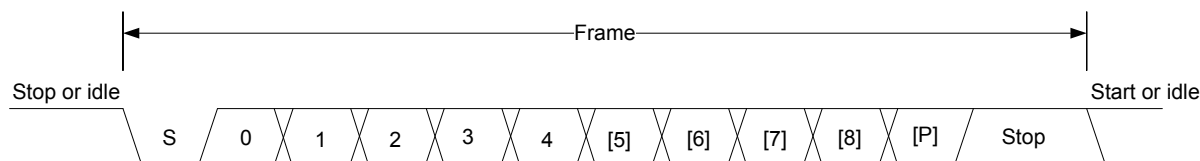

Figure 21.2. Frame Format
The frame format used in asynchronous mode consists of a set of data bits in addition to bits for synchronization and optionally a parity bit for error checking. A frame starts with one start-bit (S), where the line is driven low for one bit-period. This signals the start of a frame, and is used for synchronization. Following the start bit are 7 to 9 data bits and an optional parity bit. Finally, a number of stop-bits, where the line is driven high that indicates the end of the frame. An example frame is shown in Figure 21.2 Frame Format on page 642.